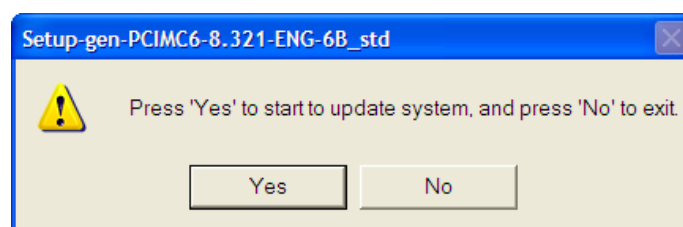

Fig. 2-1 Update prompt dialog
- 3) The first dialog box during installation is as below, see Fig. 2-1: